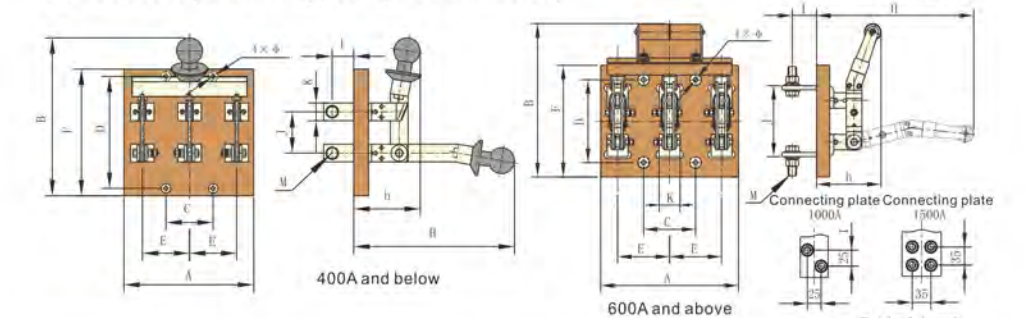

Figure 2
5.2 HD11 back-panel wiring (see Figure 2 and Table 3)